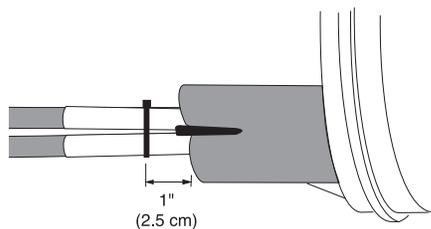

Figure 21
7. Install the branch-off clip as shown. The clip's base must touch the tube. (Figure 21)